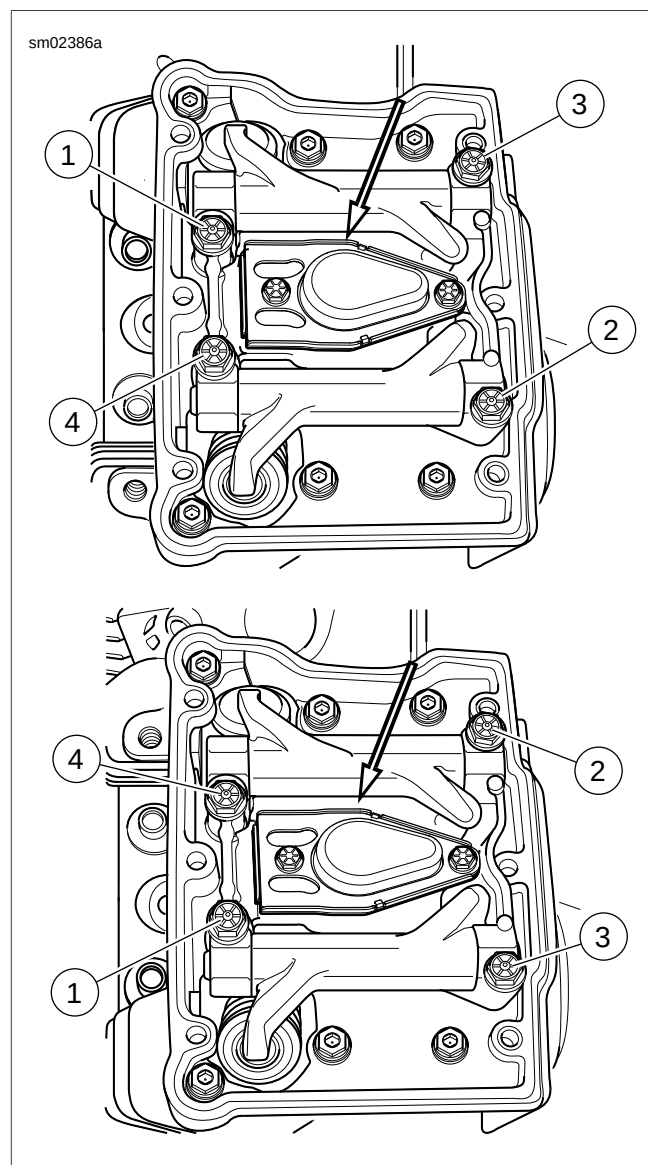

Figure 3-21. Rocker Arm Support Screw Sequence
5. See Figure 3-21. Remove two bolts to release breather assembly (arrow) and filter element from the rocker arm support plate. For inspection and repair information, see 3.17 BREATHER ASSEMBLY.